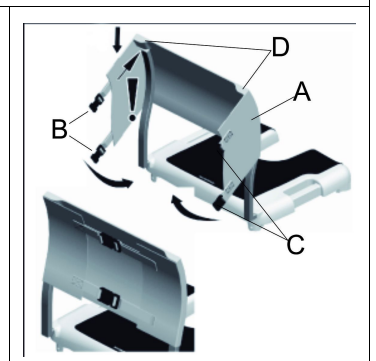

Fig. 6
2. Pull down backrest cover **A** over both sides of the backrest frame, see Fig 6.